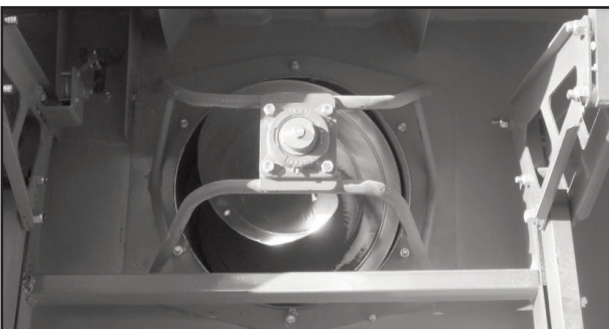

Figure 21 – Auger front
8) Before continuing with the preparation of the grain bag, check that the auger is completely free from obstructions along the tube, i.e. that it rotates freely. Figure 21 shows the front of the auger.